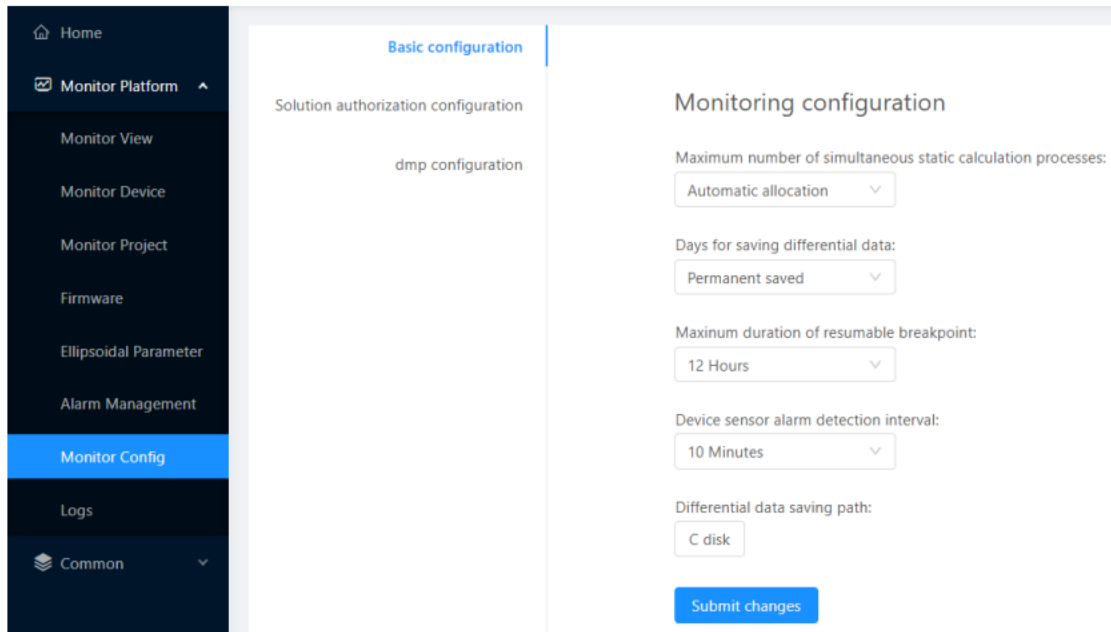

Figure 3-48
(1) Basic Configuration: This mainly involves configuring the content of the data received and stored by the server, as shown in Figure 3-48.